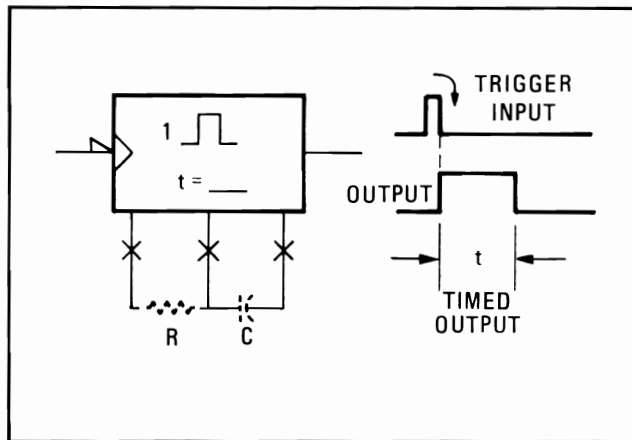

Figure 8-22. One-Shot Multivibrator
The one-shot or monostable multivibrator, when triggered, produces a pulse of pre-programmed length. The length of the pulse is determined by the external resistor (R) and capacitor (C). See Figure 8-22.